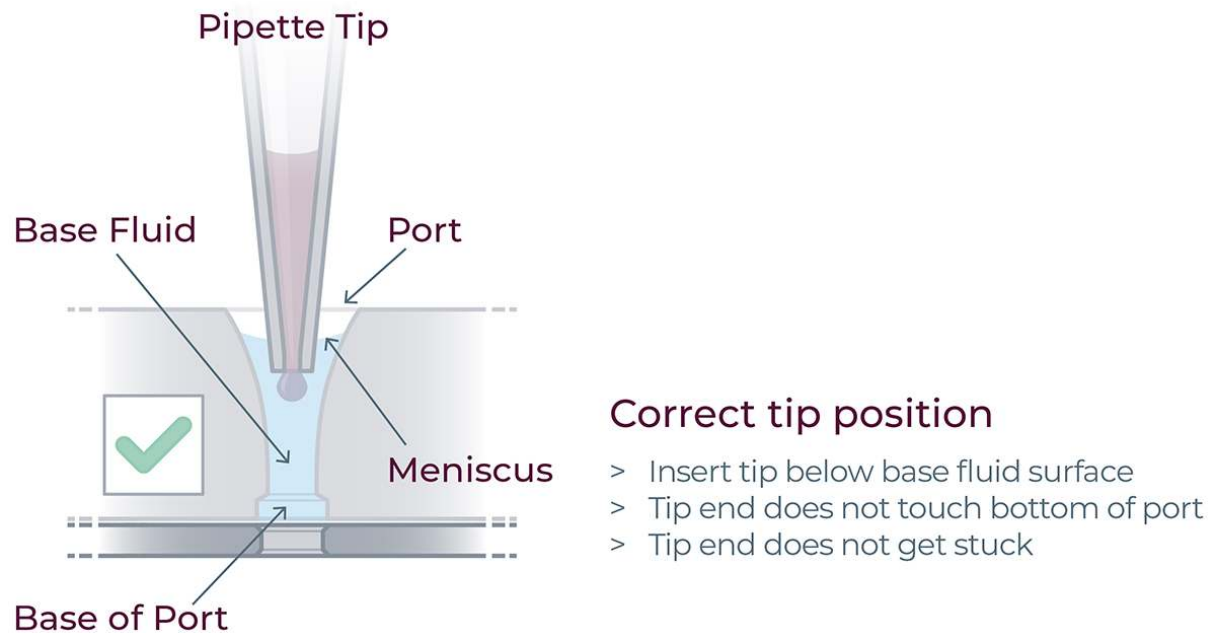

Figure 17: For correct reagent loading the pipette tip is immersed in the base fluid and not touching the bottom of the port
- Do not pass the first stop as it would release air bubbles (Figure 17).
- Do not engage the pipette tips fully into the ports, the tip ends should not touch the bottom of the ports while dispensing the reagents (Figure 17).